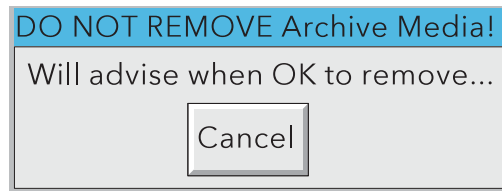

Figure 2.4.1c 'Do Not Remove Archive Media' message
3. The flap unlocks for 5 seconds in the normal way (to allow access to the stylus and the usbfront port), but a warning message appears on the screen (figure 2.4.1c).